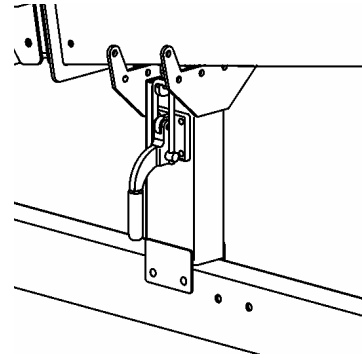

Figure 3-5. Boom Travel Latch
- ❑ Pull the latch release on the boom travel latch, raise the latch handle and swing the latch U-bolt down. Refer to figure 3-5.